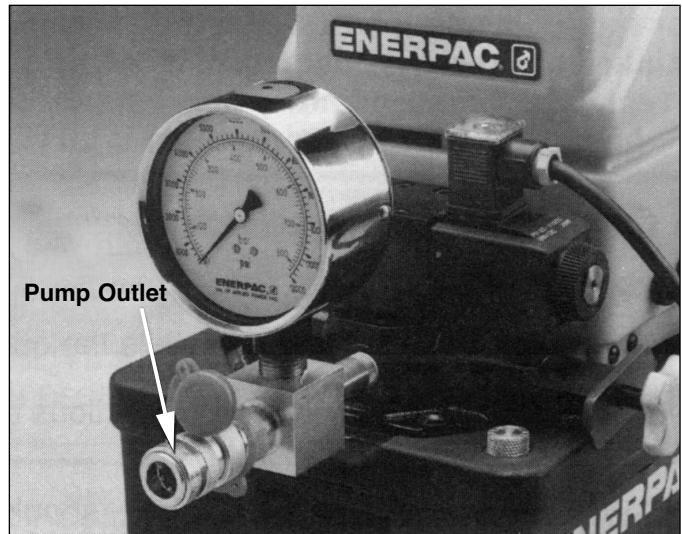

Figure 2 - Pump Outlet (Single-Acting)
- Couple hose to pump outlet shown in Figure 2. BE SURE to use hose marked "ENERPAC 800 SERIES - 800 BAR/11,600 PSI MAX". Hand tighten coupler lock rings.